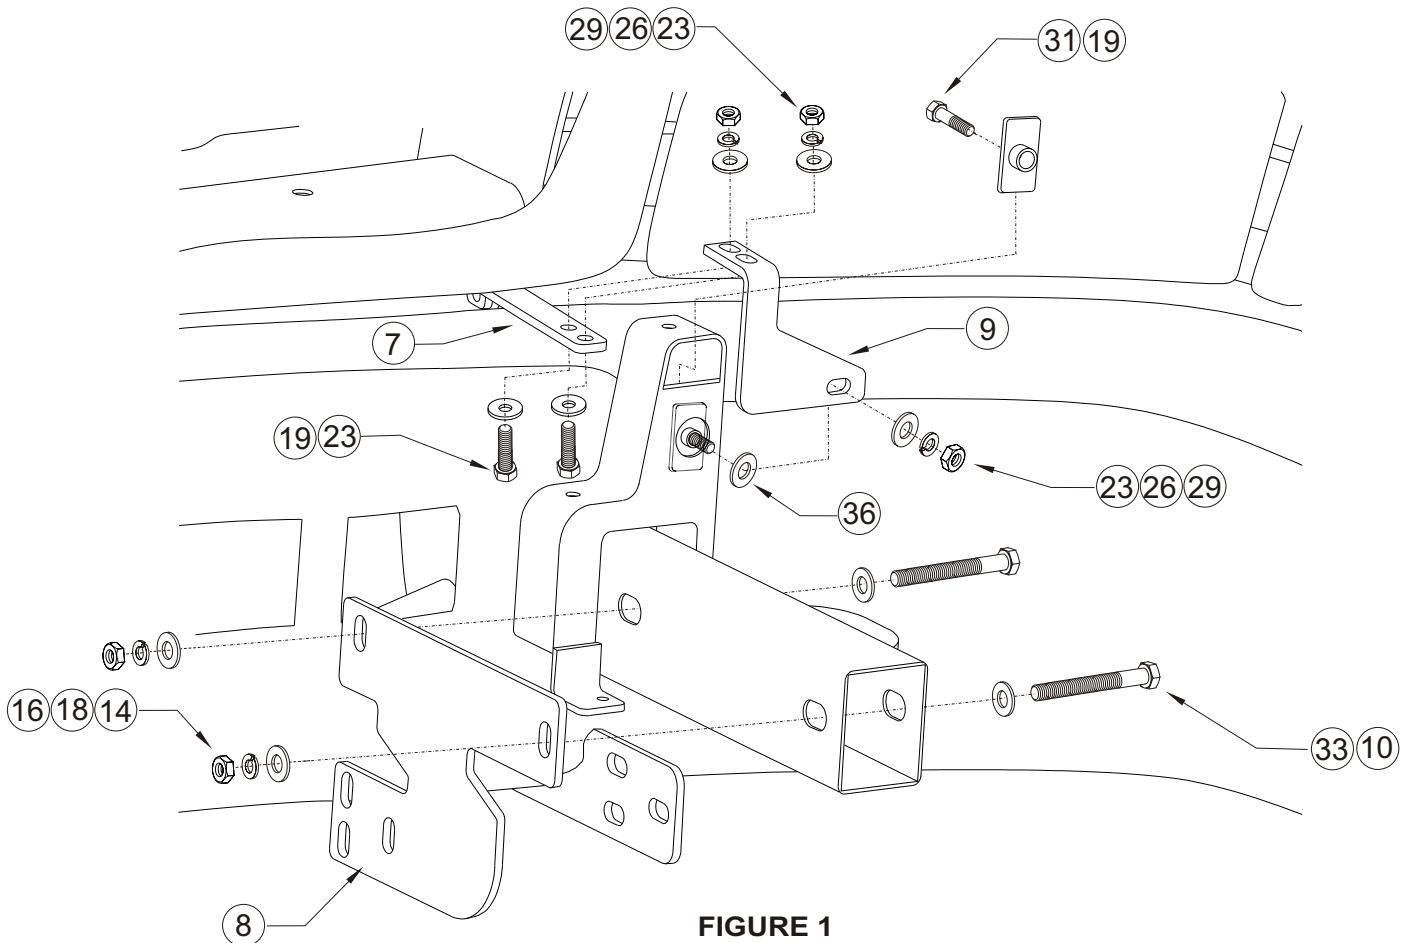

FIGURE 1
- STEP 3. Determine passenger and driver bottom brackets. Position passenger bracket to the inside of the frame rail and secure using 1/2" fasteners as shown. **NOTE:** 1/2-13 x 4.00" hex head bolt and spacer washer goes to the outside of the frame. Leave loose and repeat for driver's side. **SEE FIGURE 1.**
- STEP 4. Determine passenger and driver support braces. From the front of the vehicle, install the front half of the support brace through the opening between the grille and bumper. From underneath the vehicle, attach the rear half of the support brace to the front half of the top bracket and secure using 3/8" fasteners. Locate the 1" hole just below where the top of bumper fastens to the frame. Insert the 3/8" bridge nut and bolt into the hole and secure with the plastic washer. Attach the top bracket to the frame by placing it over the 3/8" bolt and securing with 3/8" fasteners as shown. **SEE FIGURE 1**